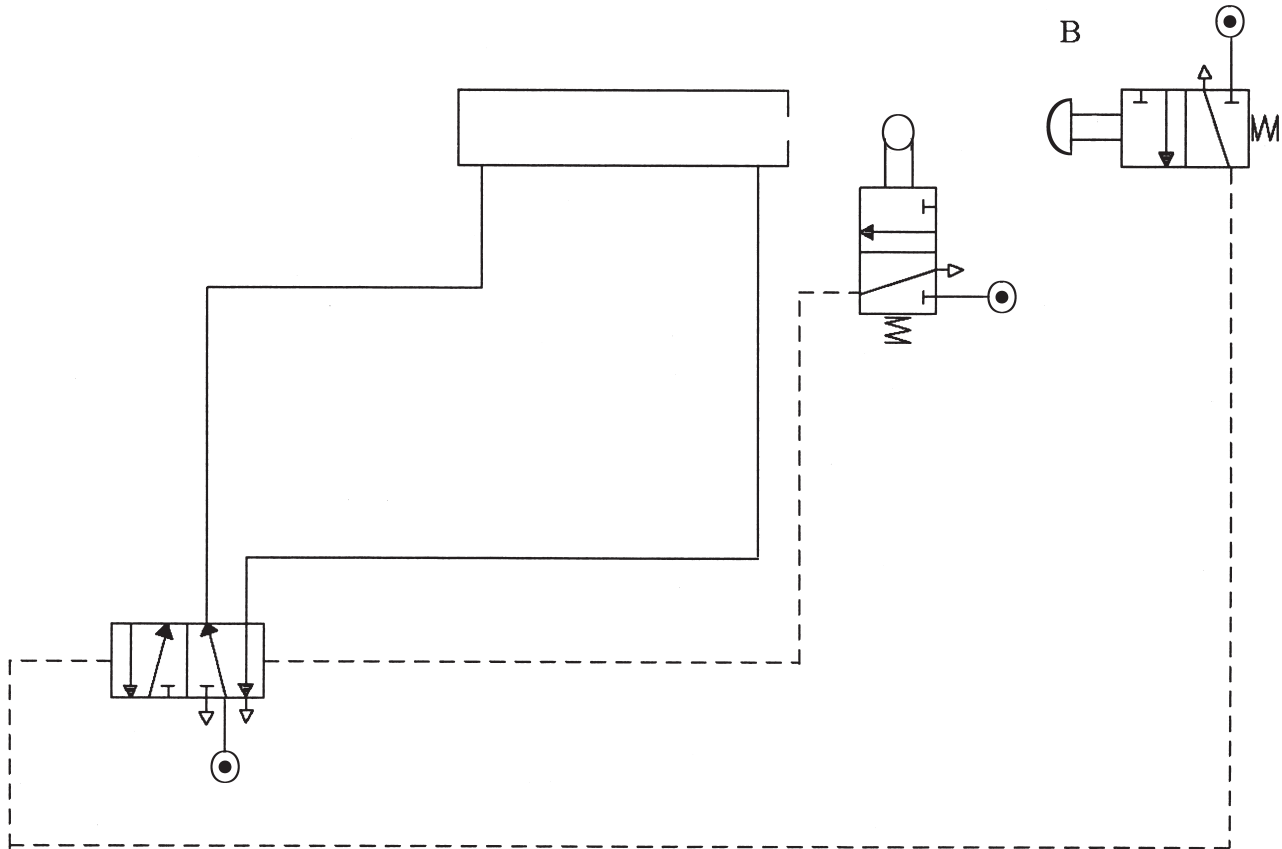

Figure 16
B6 Many pneumatic circuits are designed to be reciprocating as long as the air supply remains uninterrupted. An incomplete version of one such circuit is shown in **Figure 16**.
- (a) Complete the circuit in **Figure 16** by adding a flow control valve that will control the piston speed as it moves in the *negative direction*.
- (b) Complete the drawing of the double acting cylinder in **Figure 16** by drawing the piston and showing its direction of movement with an arrow after button B has been pressed and a short period of time has elapsed. (2 marks)